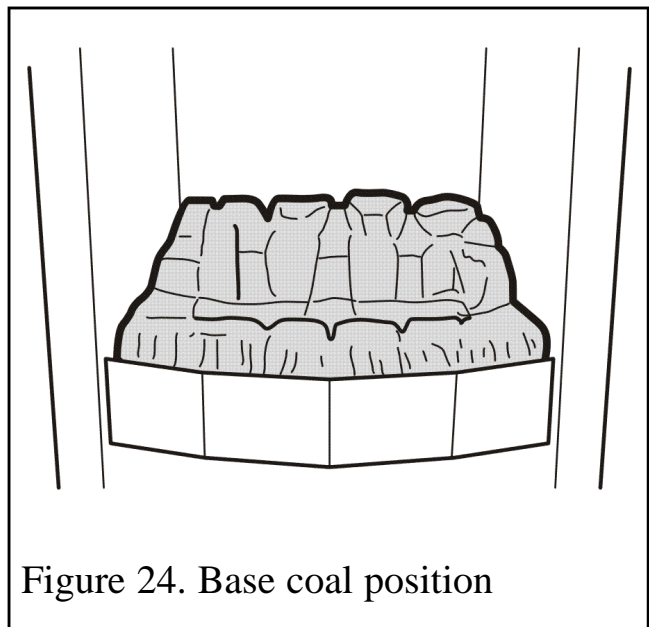

Figure 24. Base coal position
1. Place the base coal in the firebox (See figure 24).